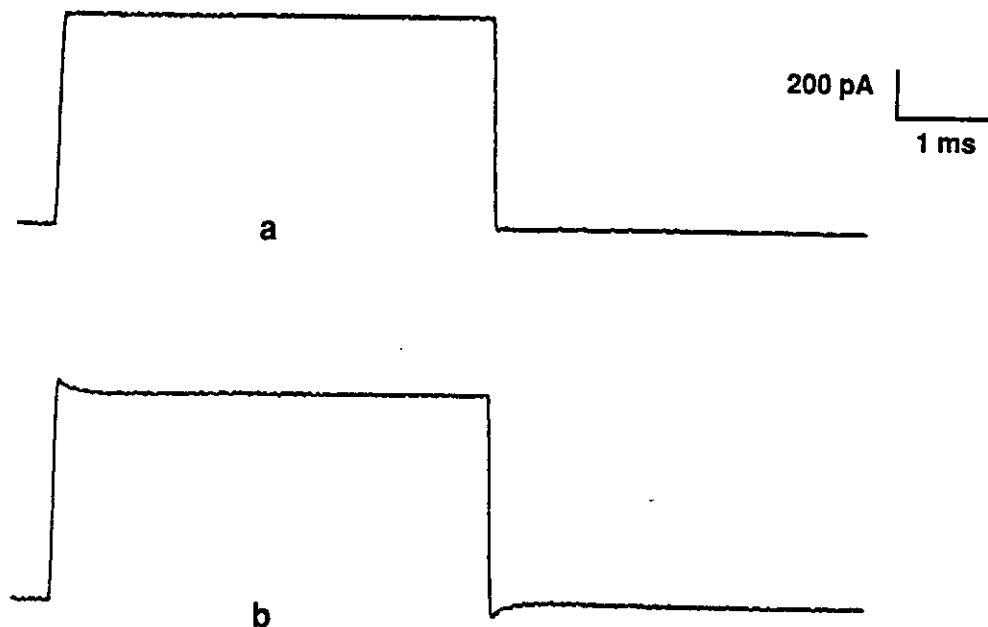

Figure 23. Frequency Tuning of Whole Cell Configuration
- Adjust RT31 until you get a response which looks like either trace a or trace b of Figure 23.